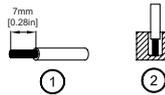

Figure 5
You can use flexible (stranded wire) or solid wire with cross section 0.52-3.3 mm² (AWG 20-12) and torque of 0.46Nm (4.05lb in). To secure reliable and shock proof connections, the stripping length should be 7 mm [0.28 in] (see Fig. 5 (1)). Please ensure that the wires are fully inserted into the connecting terminals as shown in Fig. 5 (2).